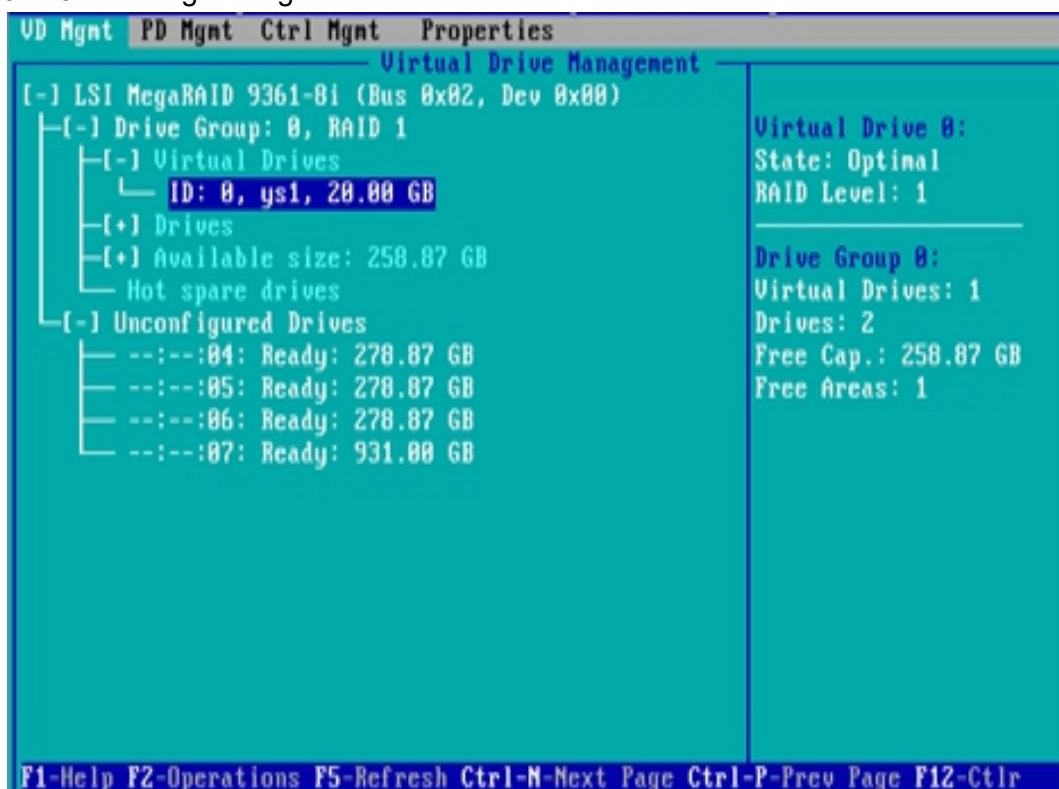

Figure 6-118
- a) As shown in figure 6-118, select the logical disk to be deleted in the VD MGMT interface and press F2.
- ✧ Figure 6-118 selecting the logical drive to be deleted